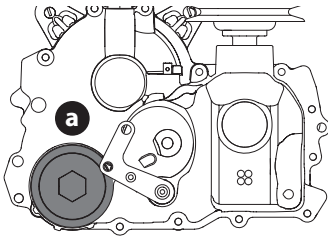
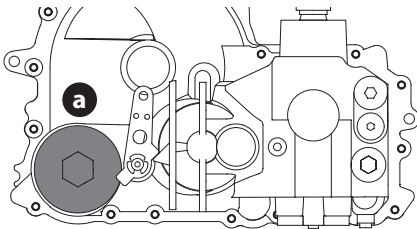

Fig. 43
Fig. 44
- Place a suitable container under the oil filter cover (a) on the transmission. Remove the oil filter cover from the transmission to drain the oil (Fig. 43 for 700 series, Fig. 44 for 900 series). Remove and discard the O-ring.
- Replace new filter and fit new O-ring onto filter cover (a) (Fig. 43 for 700 series, Fig. 44 for 900 series).